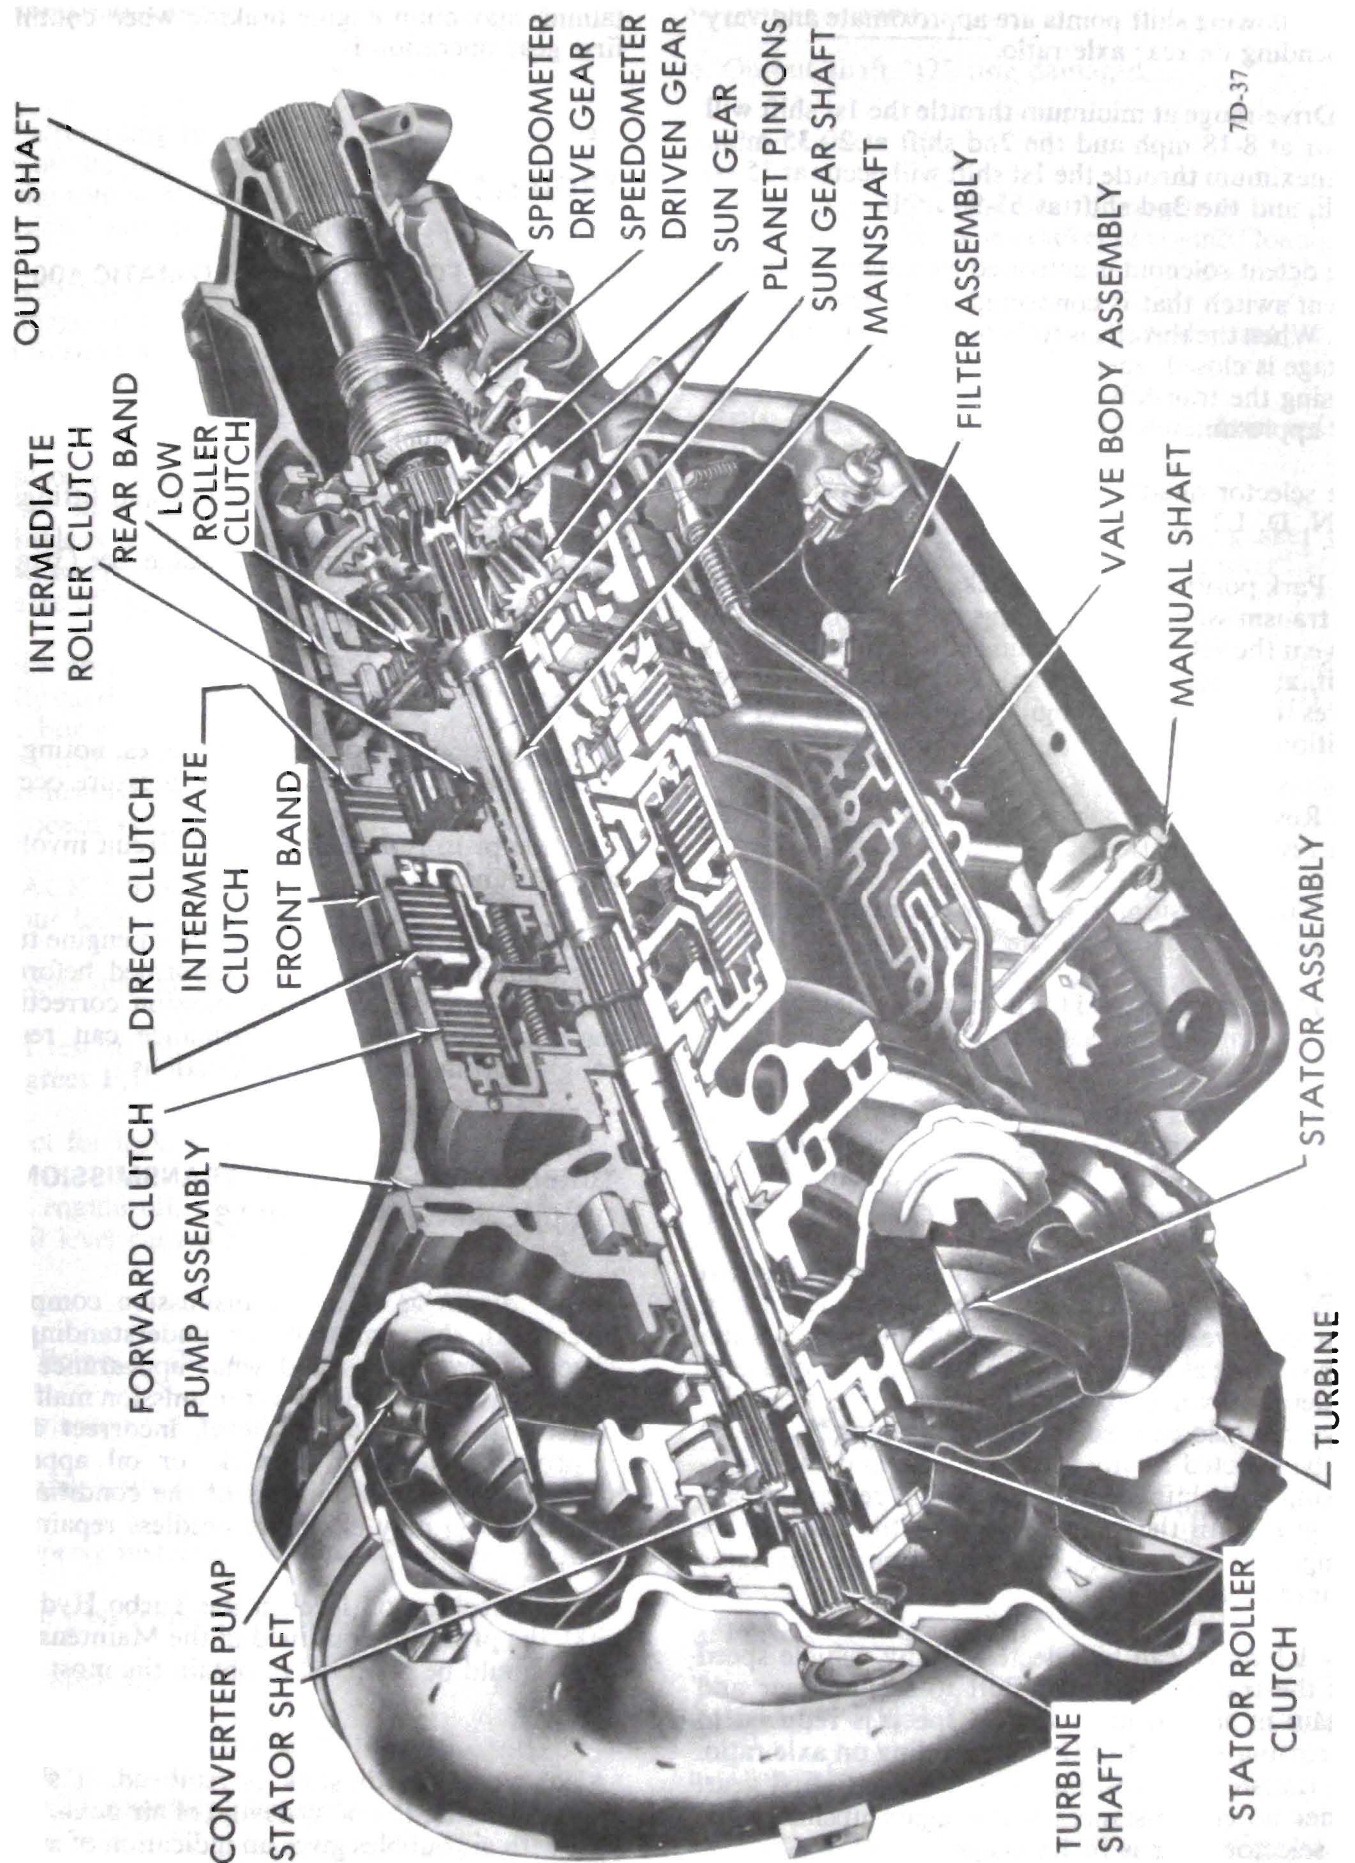

Figure 7D-1 - Cross Section of Transmission (Typical)
The Turbo Hydra-matic 400 Automatic Transmission, see Figure 7D-1, is a fully automatic unit consisting primarily of a 3-element hydraulic torque converter and a compound planetary gear set. Three multiple-disc clutches, two (2) one way roller clutches and two bands provide the friction elements required to obtain the desired function of the compound planetary gear set.